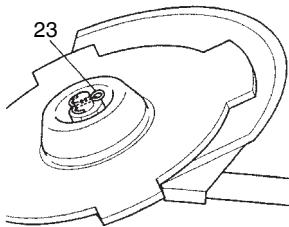

Fig. 19
- When installing cutter holder cap (20), be sure to set concave side upward.
- Insert the alien wrench (19) into the hole of the angle transmission in order to lock the cutter holder (21). Please note that the cutter fixing bolt or nut (22) has left-handed threads, (clockwise to loosen/counter-clockwise to tighten). Tighten the fixing bolt or nut with the box wrench.
- If your unit is of a nut securing type and equipped with a cotter pin, the blade must be retained with a new pin (23) each time installed. (Fig. 19)